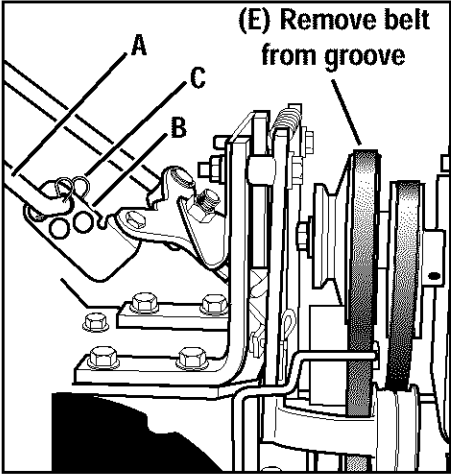

Figure 5-9: Disconnect Forward Clutch Rod and move forward drive belt out of groove in engine forward drive pulley.
1. Checking for correct belt tension is the same as that described in item 5, *Step 4: Attach Forward Clutch Rod*. Before checking, shut off the engine, disconnect the spark plug wire, and allow the engine and muffler to cool down. If, after following the adjustment procedures, you cannot get the correct gap on the forward clutch rod adjustment bracket, you will need to make a secondary adjustment as described next.
2. Disconnect the Forward Clutch Rod (A, Figure 5-9) from the swivel plate (B) by removing the innermost hairpin cotter (C).
5. Slip the forward drive belt (E, Figure 5-9) off the engine-driven forward drive pulley by pushing it off (away from engine) with your left hand while pulling engine starter rope with your right hand.